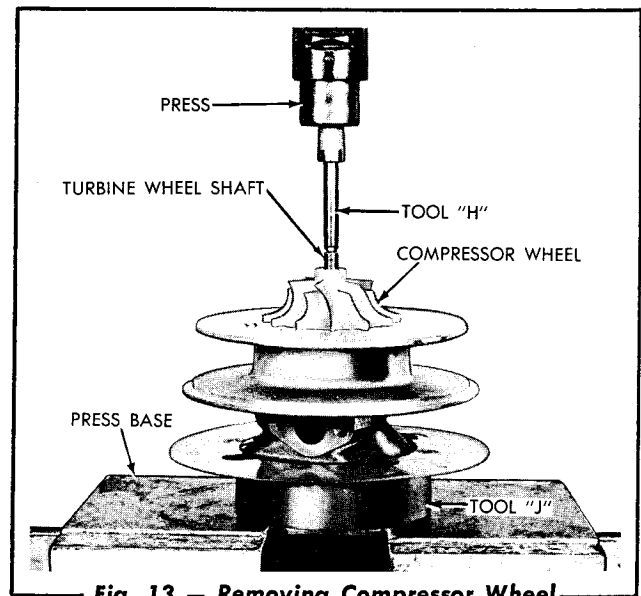

Fig. 13 - Removing Compressor Wheel
- a. Center tool "J" (Fig. 13) in arbor press.